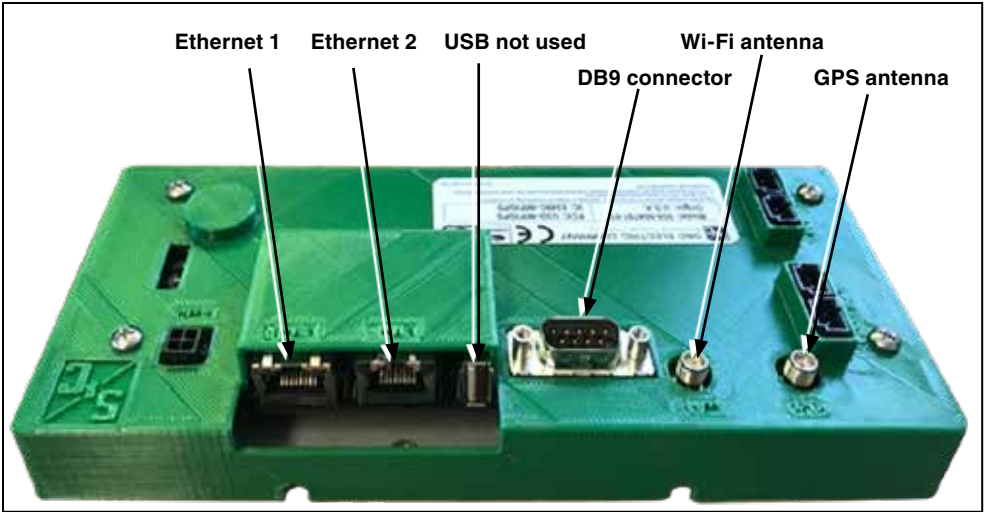

Figure 20. The Wi-Fi/GPS Unit connectors.
- STEP 4.** At the Wi-Fi/GPS Unit, plug the RJ45 cable from the control into Ethernet 1 on the Wi-Fi/GPS Unit. See Figure 20 on page 22.